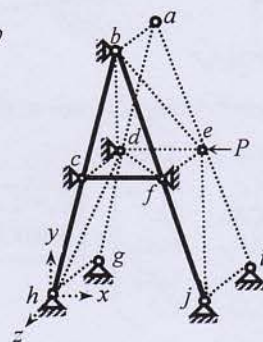

Fig.2
- Ignore zero-force members and apply boundary conditions to form the stiffness matrix of the space truss $abcdefghij$ shown in Fig.2 [Given: $S_x = \text{constant} = 500 \text{ kip/ft}$, Nodal Coordinates (ft) are $a(5, 12, -5)$, $b(5, 12, 0)$, $c(2.5, 6, 0)$, $d(2.5, 6, -5)$, $e(7.5, 6, -5)$, $f(7.5, 6, 0)$, $g(0, 0, -5)$, $h(0, 0, 0)$, $i(10, 0, -5)$, $j(10, 0, 0)$].